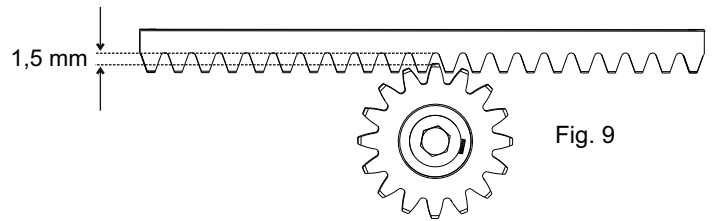

Fig. 9
5.6. To avoid that the door weights down on the pinion (Fig.9) lift up the whole rack about 1,5 mm.